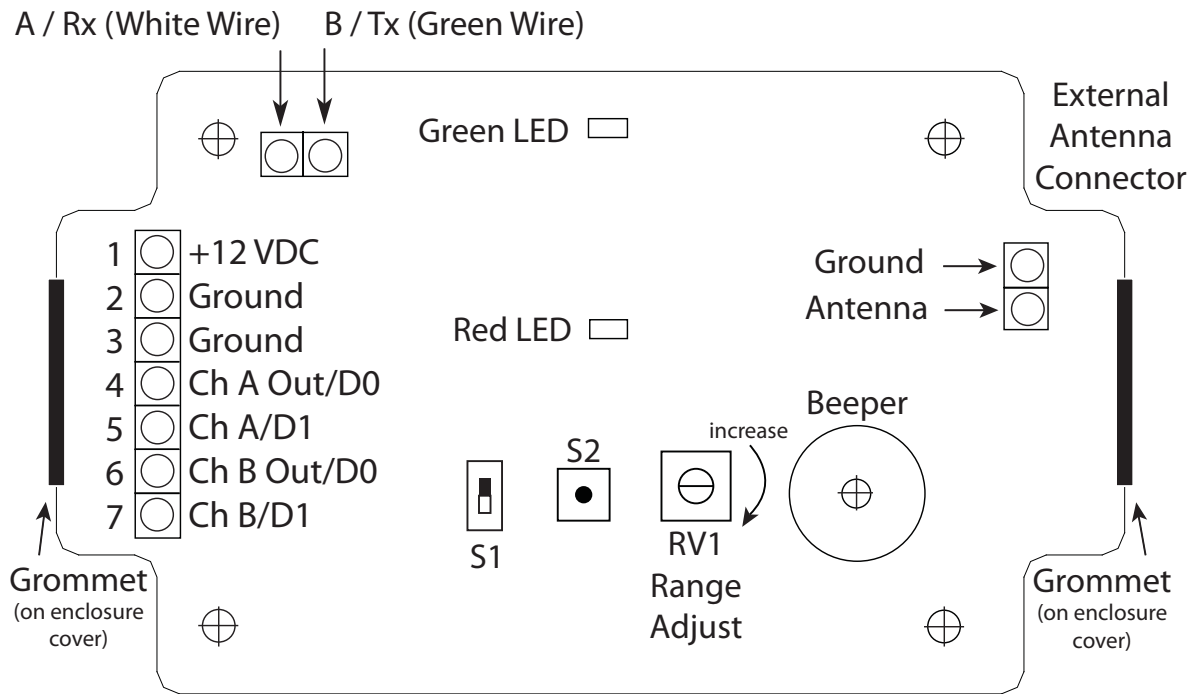

Figure 6: Receiver PCB
The PC Board outline for the RXR-10 Receiver is shown in Figure 6 on page 7. The Receiver is equipped with a Range adjustment potentiometer (RV1). For single lane applications the system installer only needs to supply DC power to the Receiver and Exciter. For information on Enter/Exit applications, please refer to Section 6.0 in this Installation Guide.
2. Remove the cover from the RXR-10 Receiver and maximize Receiver sensitivity by rotating the range potentiometer (RV1) fully clockwise (see Figure 6).
1. Remove the Receiver cover. There two LEDs, one Red and one Green (see Figure 6 on page 7). The Green LED blinks off when a Transponder is in range and the Red LED blinks off when a proper code is detected and data is shipped to the host controller.